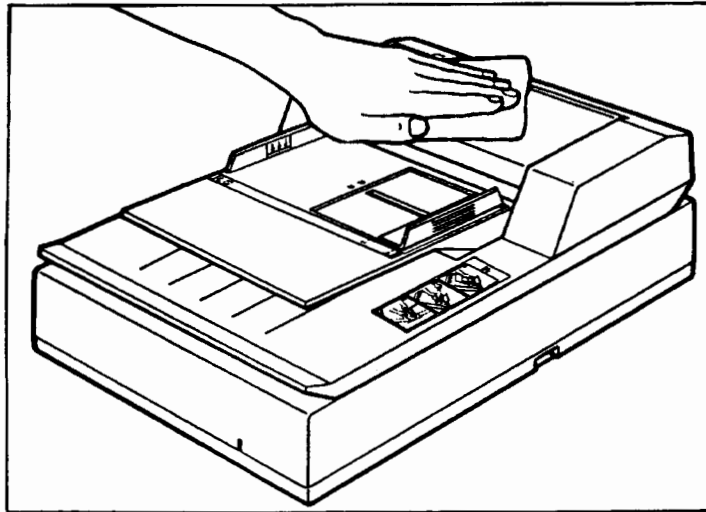

Figure D-16. Cleaning the ADF
3. Wipe off the exterior and underside of the ADF with a soft cloth and a mild detergent. Dry with a clean, soft cloth. See figures D-16 and D-17.